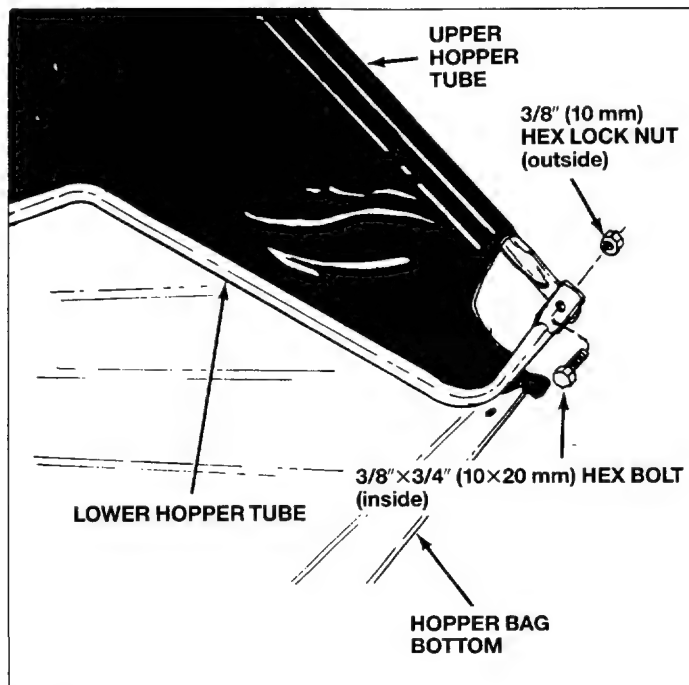

Fig. 17
6. Place assembled lower hopper tubes into bottom of hopper bag as shown in figure 17.
7. Assemble the upper and lower hopper tube ends together with two $3/8" \times 3/4"$ (10×20 mm) hex bolts (inside) and $3/8"$ (10 mm) hex lock nuts (outside). See figure 17. Do not overtighten to allow for pivot.